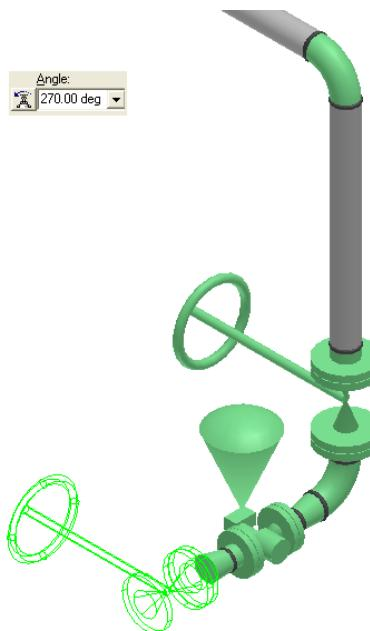

Figure 3. 86: Outlined Gate Valve in the Graphic View
33. Select the **Gate Valve** option in the **Type** drop-down list and key in **270 deg** in the **Angle** drop-down list on the **Insert Component** ribbon to rotate the gate valve so that the operator is facing the north direction, as shown in Figure 3. 86.